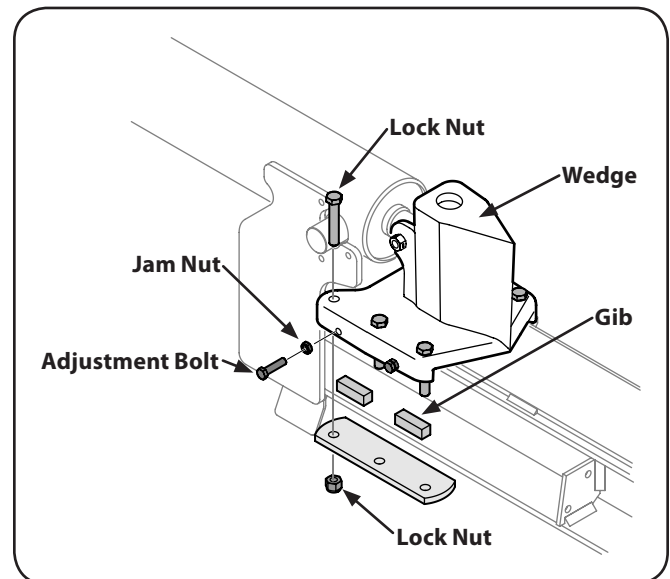

Figure 6-3
1. Loosen the jam nuts on the two adjustment bolts on the side of the wedge. See Fig. 6-3.
1. Loosen the lock nuts under each back plate and slide the gibs out. See Fig. 6-3.